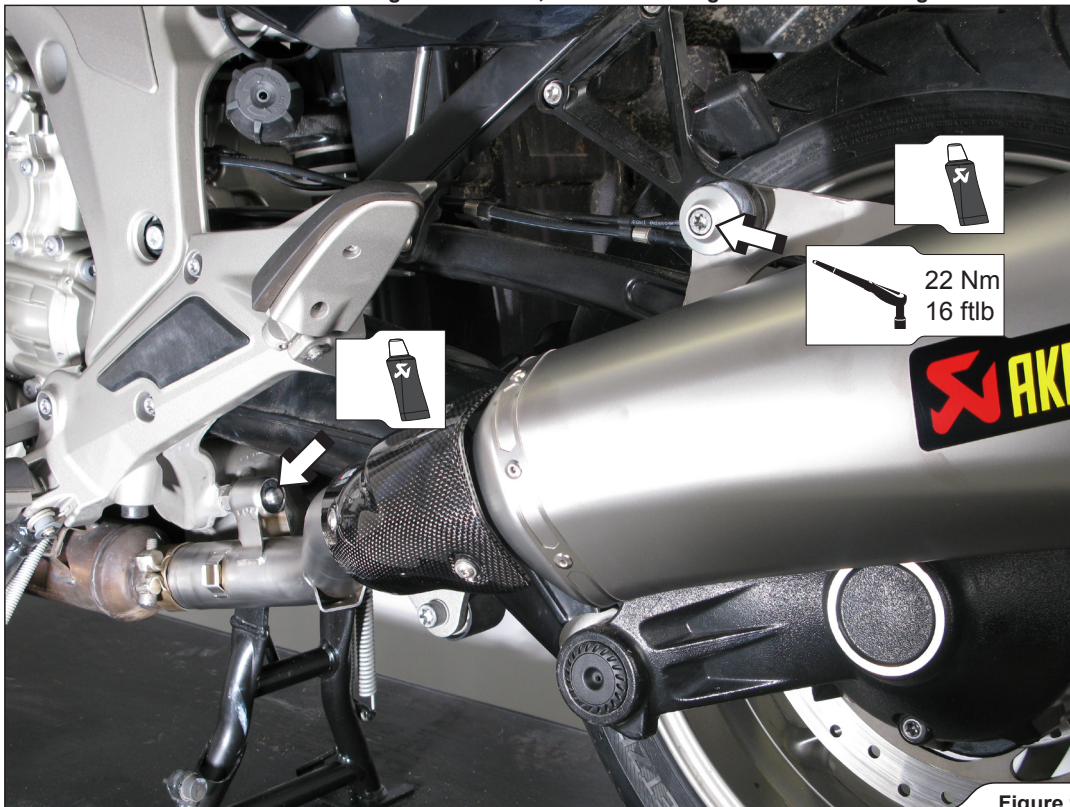

Figure 9
- Slide the left muffler all the way onto the outlet side of the stock collector and simultaneously slide the rubber mounting onto the original bracket. Tighten the muffler bracket to the specified torque, using original washer and bolt (Figure 9).